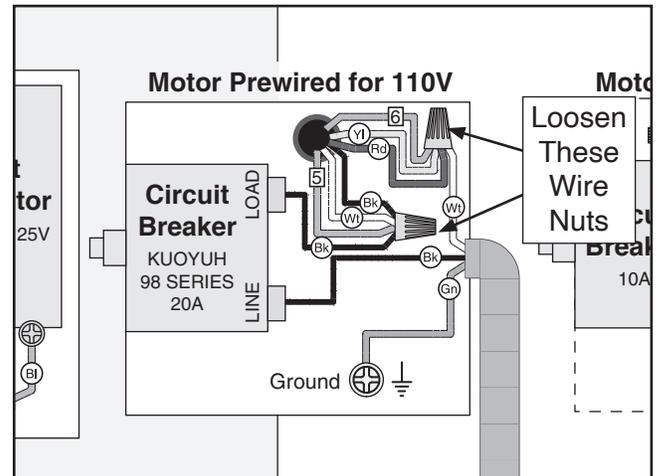

Figure 57. Motor prewired for 110V.
4. Loosen two wire nuts indicated in **Figure 57**.